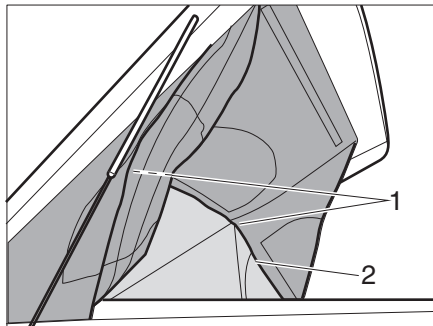

Fig. 22 Panorama function
- Open the zip (Fig. 22,2) all round the pop-up roof.
- Secure the side panels and front panel to the pop-up roof with Velcro (Fig. 22,1).